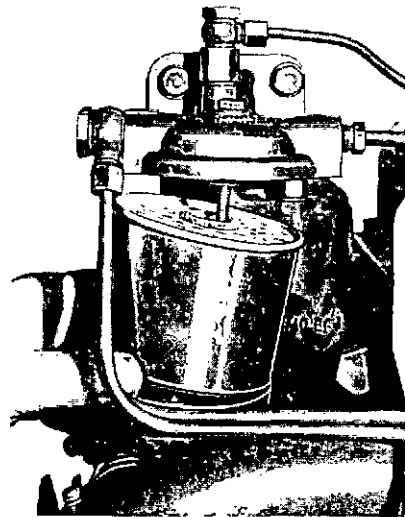

Fig. 17
- (c) Either lower filter bowl clear and discard element or lower base and discard element (see fig. 17).